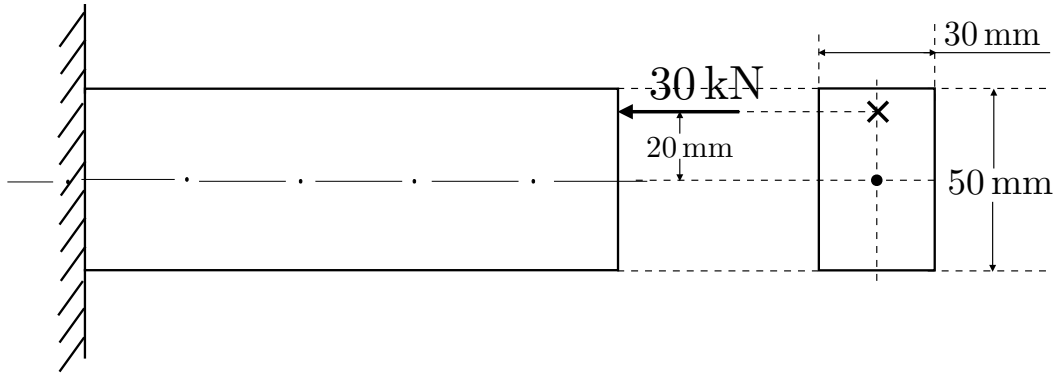

Figure 3: A Bar Subjected to an "Eccentric" Point Load
4. Determine the axial and maximum bending stresses in the bar shown in Figure 3. Plot the axial stress, bending stress and the resultant normal stress distributions at any cross section in the bar.